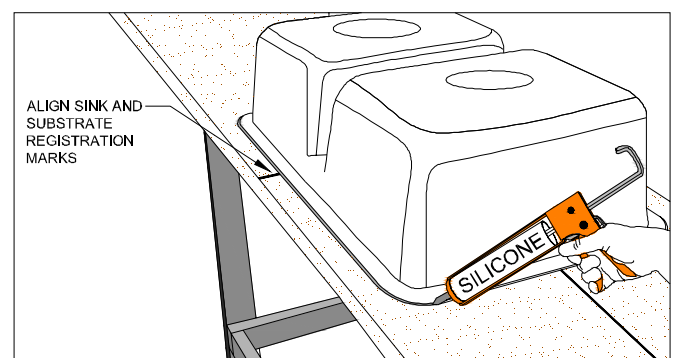

Figure 11D
- Use a laminate trim router with a $\frac{3}{8}$ " bottom bearing flush trim bit, route around the inside of the sink cutout. (FIG. 11D)
- Fill gap between sink rim and substrate with 100% silicone. (FIG. 11D)